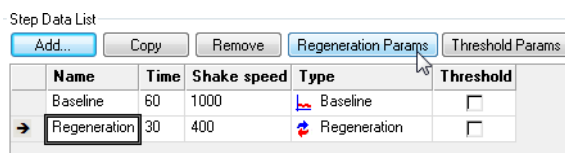

Figure 9-35: Regeneration Params Button
4. Click **Regeneration Params** (Figure 9-35).